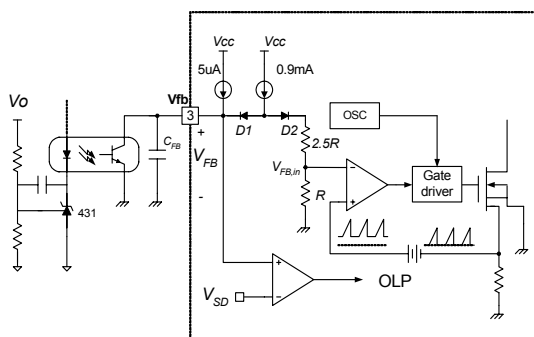

Figure 5. Pulse Width Modulation (PWM) Circuit
2. Feedback Control : The FSDL0165RN employs current mode control, as shown in Figure 5. An opto-coupler (such as the H11A817A) and shunt regulator (such as the KA431) are typically used to implement the feedback network. Comparing the feedback voltage with the voltage across the Rsense resistor plus an offset voltage makes it possible to control the switching duty cycle. When the KA431 reference pin voltage exceeds the internal reference voltage of 2.5V, the optocoupler LED current increases, the feedback voltage Vfb is pulled down and it reduces the duty cycle. This event typically happens when the input voltage is increased or the output load is decreased.
4.4 Over Voltage Protection (OVP) : In the event of a malfunction in the secondary side feedback circuit, or an open feedback loop caused by a soldering defect, the current through the opto-coupler transistor becomes almost zero (refer to Figure 5). Then, V_{FB} climbs up in a similar manner to the over load situation, forcing the preset maximum current to be supplied to the SMPS until the over load protection is activated. Because excess energy is provided to the output, the output voltage may exceed the rated voltage before the over load protection is activated, resulting in the breakdown of the devices in the secondary side. In order to prevent this situation, an over voltage protection (OVP) circuit is employed. In general, V_{CC} is proportional to the output voltage and the FPS uses V_{CC} instead of directly monitoring the output voltage. If V_{CC} exceeds 19V, OVP circuit is activated resulting in termination of the switching operation. In order to avoid undesired activation of OVP during normal operation, V_{CC} should be properly designed to be below 19V.